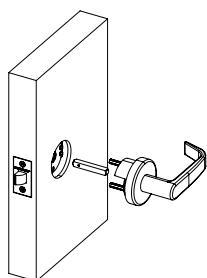

Figure 8
- Insert the outside spindle into the spindle hub, then slide outside lever assembly into bore. (Figure 8)